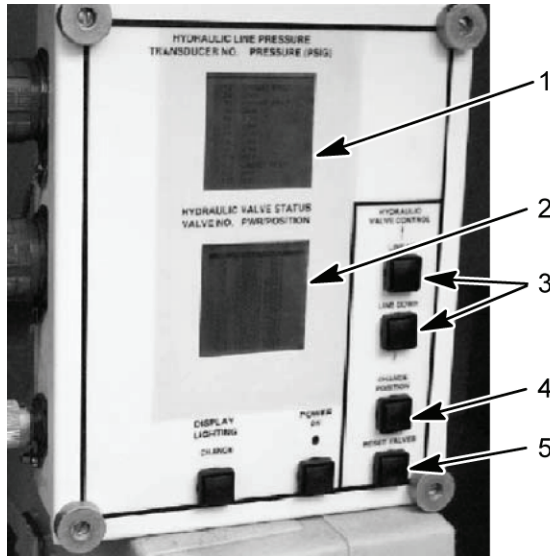

Figure 16. HDC Control Box
- Reset all HDC solenoid valves by selecting the RESET VALVES button (Figure 16, item 5) on the HDC control box.
- Manually close the ejector inhibit ball valve V23 (Figure 17, item 1) on the DCV bank. Using LINE UP or LINE DOWN button (Figure 16, item 3), select V1 on the HDC display (Figure 16, item 2). Close V1 on the HDC display (Figure 16, item 2) by selecting the CHANGE POSITION button (Figure 16, item 4) on the HDC control box.